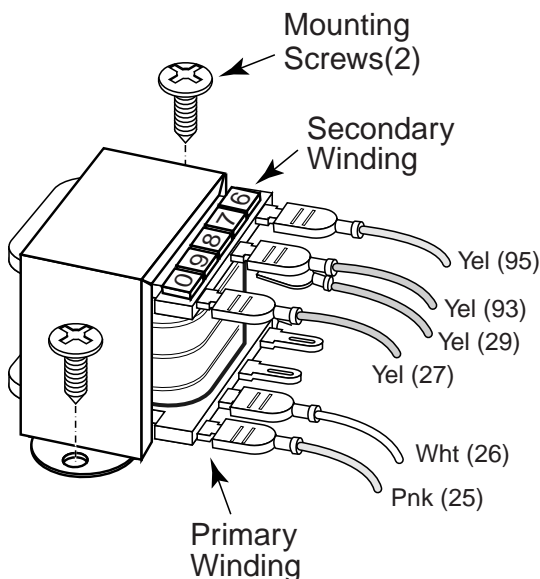

Figure 21
5. **To remove the lamp transformer (see Figure 21):**